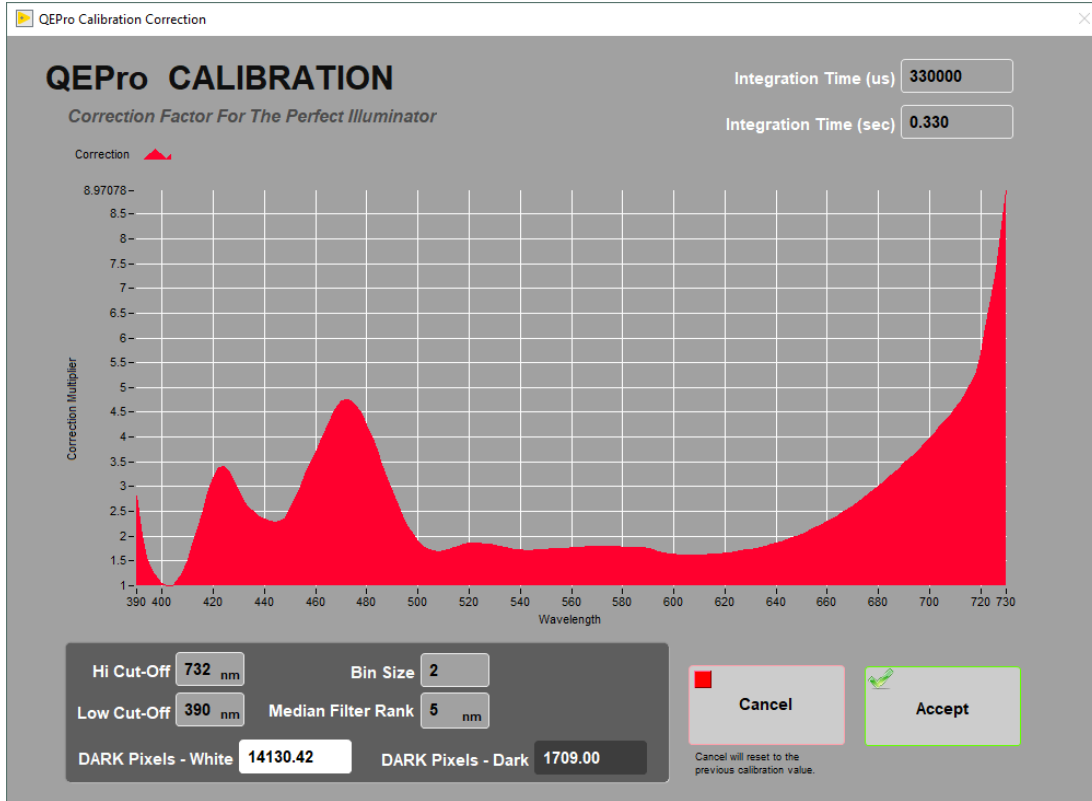

Figure 27. Calibration Normalization Factor
8. The final screen shows the normalization of spectra that will occur with the just-acquired calibration (note: low values are better than high values because of signal-to-noise ratio) (Figure 27). Ideally, the graph would display a straight line at zero value. However, a normalization factor is required to be applied to the XYZ and L*a*b* color indexes. Normalization amplifies the noise as well as the signal. If core flow allows, the data quality can be increased by averaging multiple measurements (in **Measurement Editor** increase the **Average** parameter).